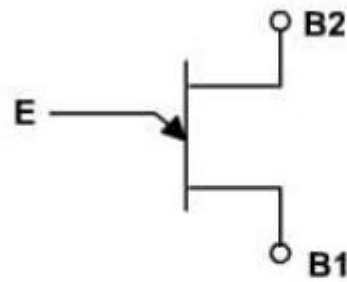

Fig. 1 Symbol
- ❖ The symbol for UJT is shown in **fig. 1**. The UJT is having three terminals base1 (B1), base2 (B2) and emitter (E).